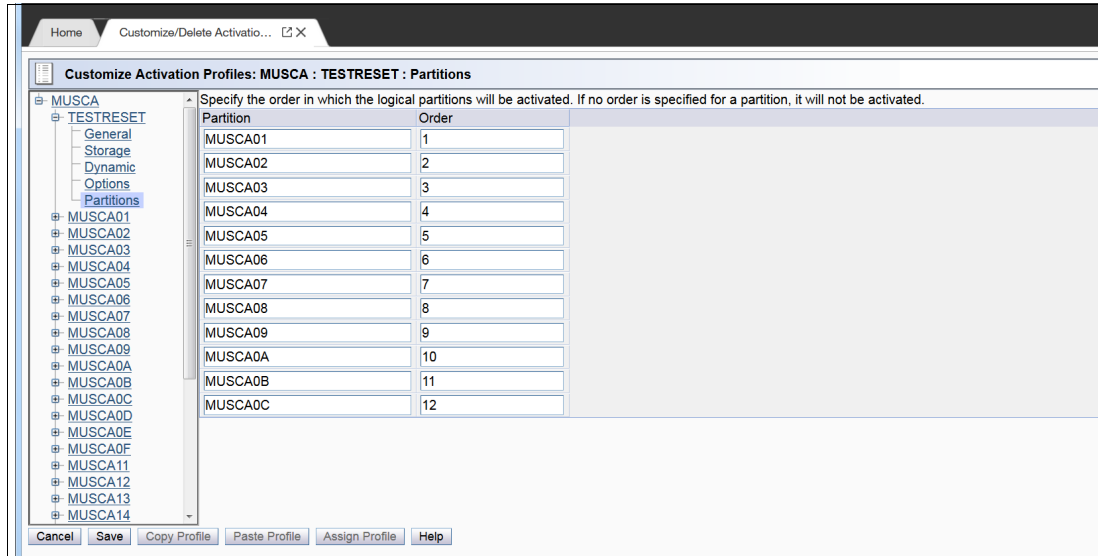

Figure 5-21 Reset and Image profile list: Updating the partition list
2. After you make your determinations, click **Save** (see Figure 5-21).